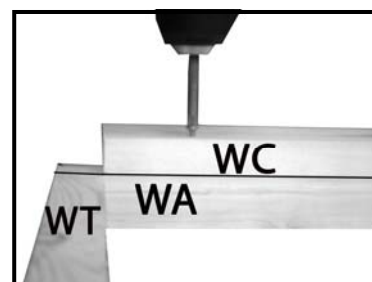

Fig A5
12. Fix to part **WC** to **WA** with 40mm screws (fig A5 & A6)